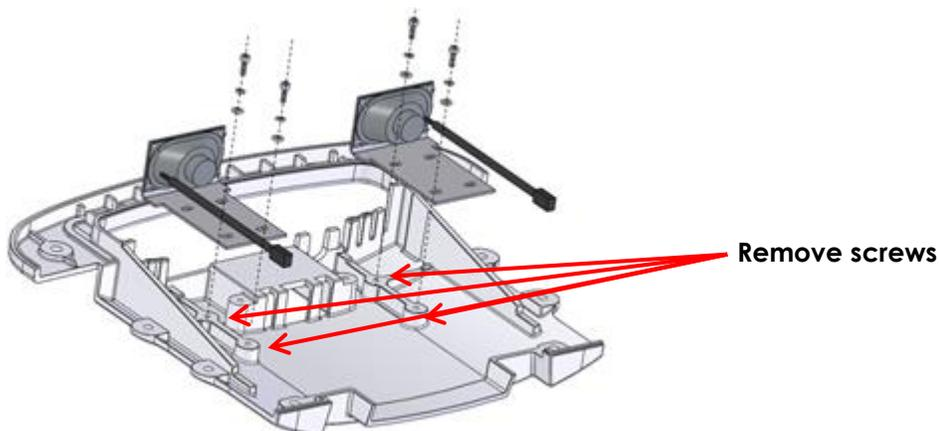

Figure 67: Lower Side of Control Panel
6. Remove the hex screws, washers and lock washers at the speaker assemblies (refer to Figure 67).